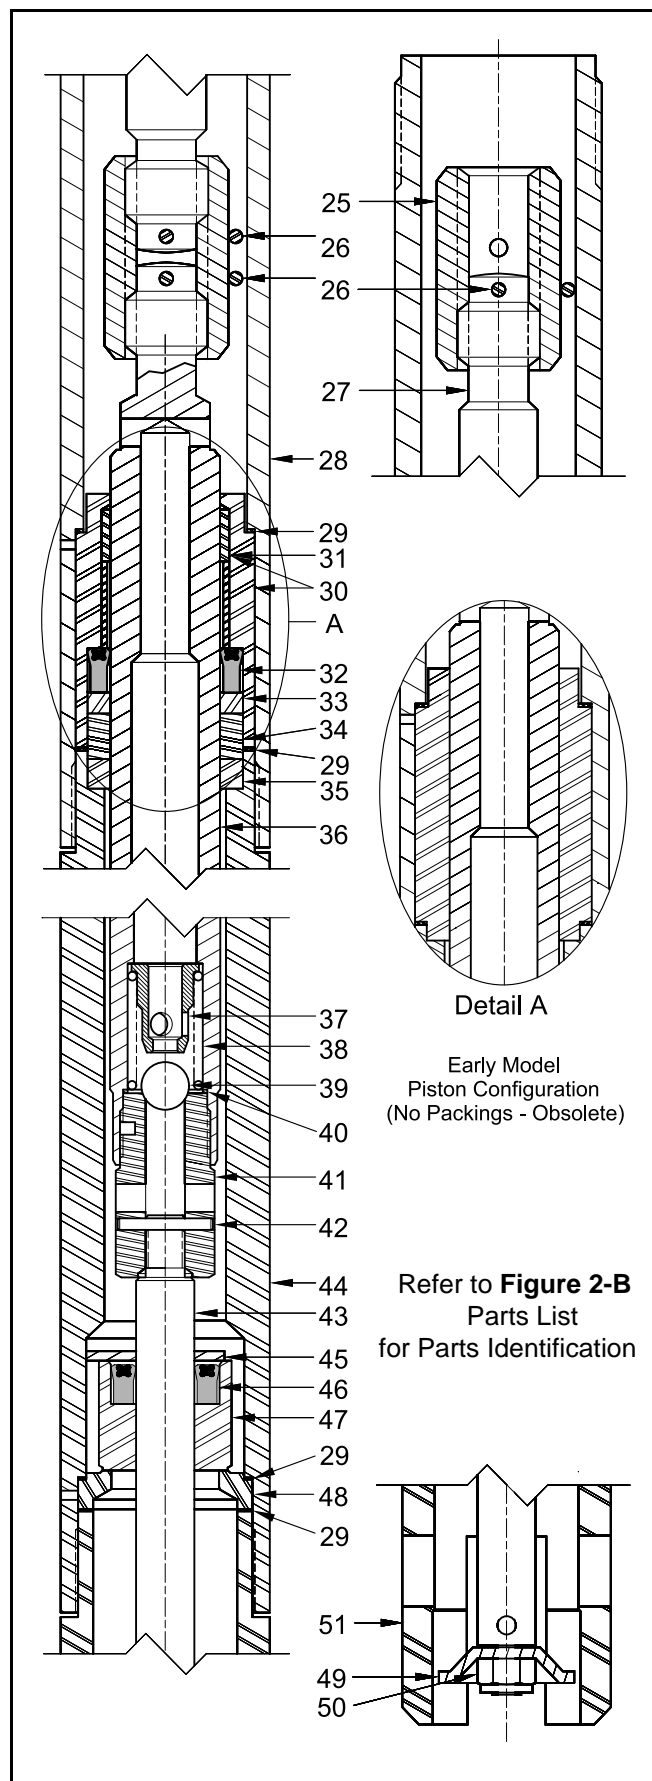

Figure 5 Pump Tube Assembly - Section View
16. Clamp the pump tube assembly at Adapter (44) securely in a soft-jaw vise.
17. Unscrew and remove Pump Tube (28) from the Adapter.
18. Remove Spring Clips (26) that secure Pump Tube Rod (27) to upper and lower Couplings (25).
***IMPORTANT:** Should the pump contain the obsolete piston (see **Figure 5**), and stall properly, certain parts within the major repair kit are discarded. If the new piston is required, order Barrel Assembly (30) and Piston (36) separately.*
20. Remove Spring Clip (26) that secures Piston (36) to lower Coupling (25).
22. Remove Barrel Assembly (30) from the Piston.
23. Remove both aluminum Gaskets (29).
24. Remove brass Bearing (34), Back-Up Ring (33), and Seal (32) from the Barrel Assembly.
NOTE: Refer to **Figure 5** for section view of pump tube components.